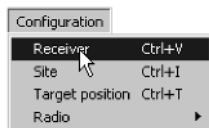

Figure 2-5. Configuration->Receiver
2. Once connected, click on **Configuration->Receiver** (Figure 2-5).